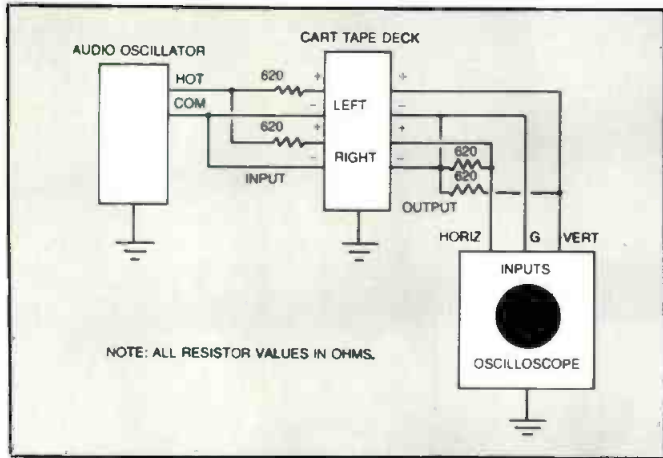

Figure 2. Stereo phase test procedure setup.
1. Connect the test equipment as shown in Figure 2.